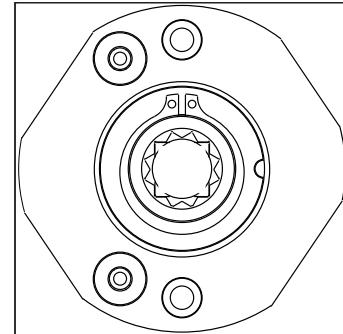

Fig. 11b
- d. Feed the reader harness and DPS connectors through the inside mounting assembly (and gasket if required*). See Figure 11B.
IMPORTANT: Do not run wires through bottom flange hole in plate (Fig. 11B, C) - it will damage wires and the controller connector. Route wires around flange, do not route wires through the flange hole (Fig. 11C).
f. Begin to secure the mounting assembly by partially tightening the (2) through-bolts on the inside of the door while ensuring proper alignment as you secure the reader (Fig. 11B).